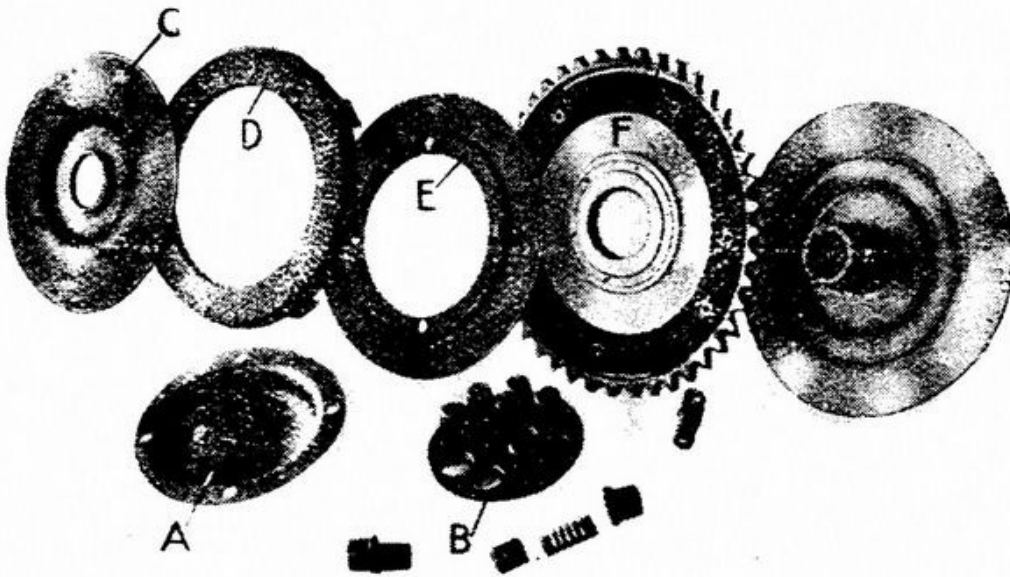

FIG. 24. THE TWO-PLATE CLUTCH DISMANTLED.
Remove the cover plate (A, Fig. 24) and take the hook spanner used for adjusting the steering head, which will be found in the tool kit. Apply this spanner so that it bridges the central nut and bears against the projecting ends of the spring boxes. With a very large adjustable spanner grip this hook spanner which should undo the spring plate (B). If this expedient fails, a hammer and punch applied to the edge of the spring plate will loosen it.
Do not, however, attempt to hammer against the spring boxes, or these will be damaged. Remove the spring plate, spring boxes and springs (Fig. 24). Next remove the outer clutch plate (C) remembering that the threaded ends of the four studs project outwards. Secondly remove the ring (D) faced on both sides with friction fabric. Dogs on the outside of this project through slots in the sprocket. Thirdly take off the thin dished plate (E). The four small holes in this engage with the pegs on the outer plate and the convex side of the dished plate should be outwards. Finally remove the clutch sprocket (F) with its double lining of friction material. It will be found that one side of this sprocket is recessed and the other plain. The recessed side should be away from the gearbox. To re-assemble proceed in the reverse order.